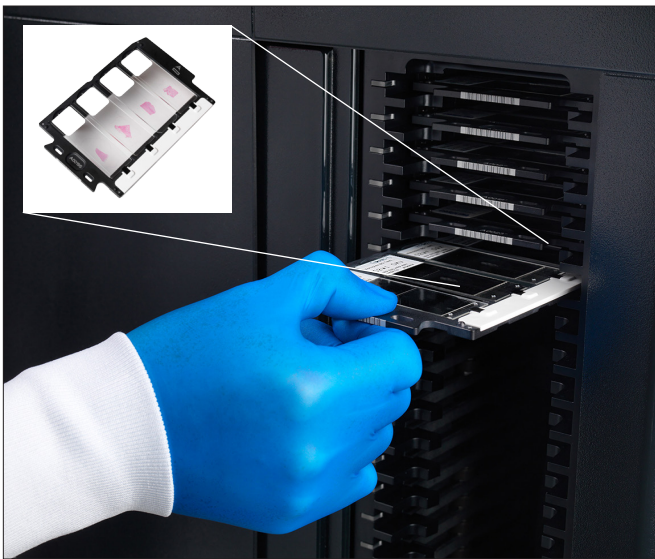

Figure 3. Vectra Polaris slide carrier and slide hotel.
- Utilization of touchless automation and unique 4-slide carriers ensures the security and stability of every sample (Figure 3)